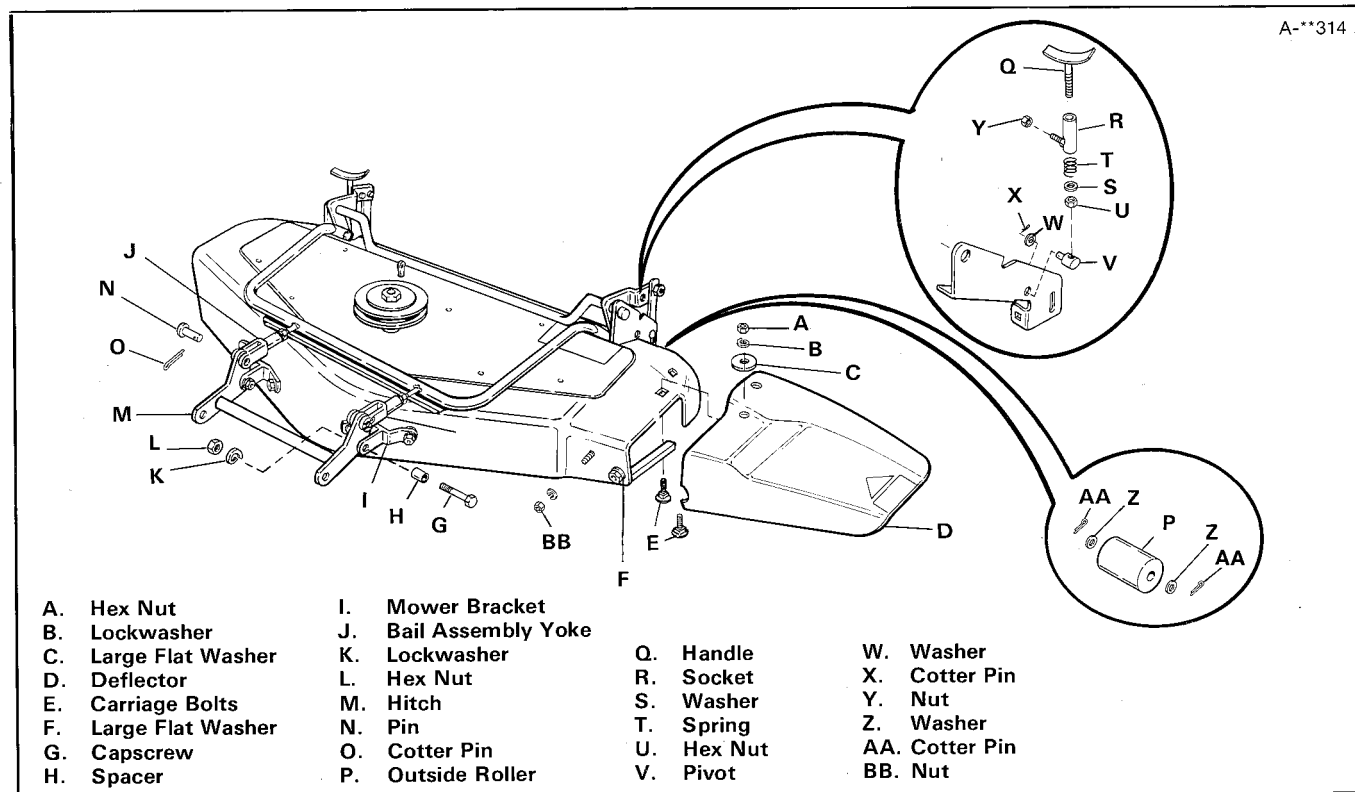

Figure 26. 48" Mower Assembly
Place the mower deck on a flat working surface and open the parts bag. Arrange all hardware according to size and type, and proceed as follows. (See Fastener ID Chart at back of manual). After assembly, recheck the mower with figure 26 to be sure mower is attached correctly.
1. Remove the two carriage bolts (E, figure 26) with their hardware from the mower deck.
2. Loosen, but do not remove, the hex nut holding the large flat washer (F).
3. Install the shield (D) as shown, making sure the notch in the shield is seated behind the large washer (F).
4. Install the two carriage bolts (E) from underneath up through the mower deck and deflector. To align holes, it may help to loosen nut (BB). Then install a large washer, a lockwasher, and a hex nut (A, B and C) on each carriage bolt and tighten all hardware in place. Be sure to also retighten the hex nut at the third large washer (F). Tighten nut (CC), if loosened.
5. When the mower is shipped from the factory, the hitch is installed backwards on the mower for shipping purposes. Remove the hitch by removing capscrews, attaching hardware, pins and clips. Insert spacers (H) in middle holes at each side of hitch and install between mower bracket (I) posts as